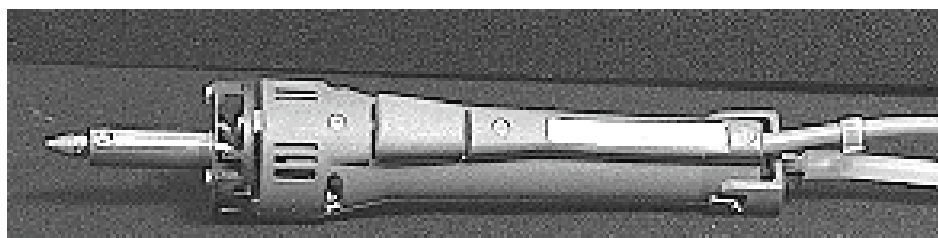

Figure 2-3.—Motorized solder extractor.
The solder extractor, shown in view (A) of figure 2-3, is connected to the variable high-voltage outlet. This handpiece allows airflow application (at controlled temperatures) of a vacuum or pressure to the selected area. Five sizes of extractor tips are provided, as shown in view (B). You can determine the one to be used by matching the tip with the circuit pad and the component being desoldered.